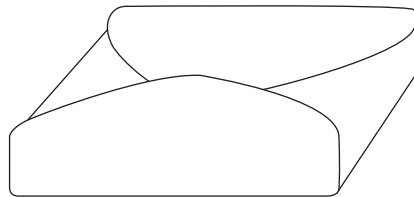

Fig.8
- 2 Wrap the sterilization cassette with sterilization wrap (Fig. 8).